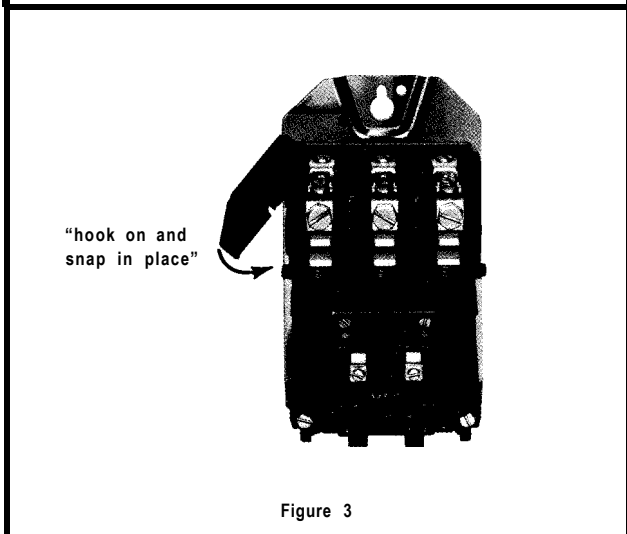

Figure 3
1. Hold load balancer at an angle, hooking the three tabs located along the top side edge into the groove provided on the top edge of the stationary contact block. See Figure 3.